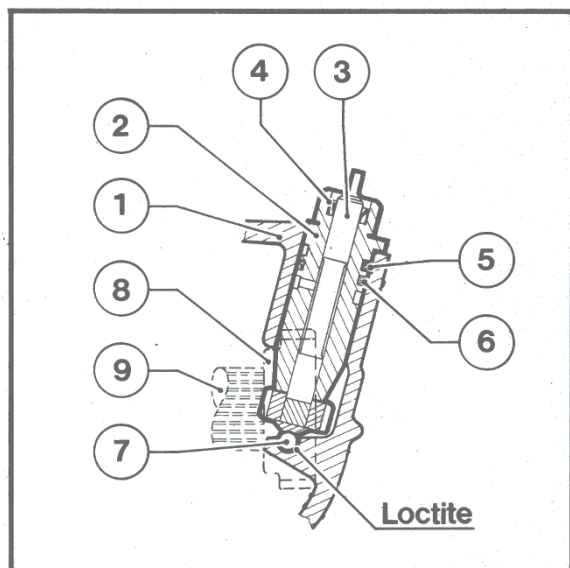

Fig. 7 Sectional view of the speedometer drive
# DISMOUNTING THE SPEEDOMETER DRIVE FROM DRAG LINK ARM CASE AND REMOUNTING (FIGURE 7)
3. Drive out pin figure 7/5.
4. Pull out bearing bush figure 7/2 with helical gear and shaft figure 7/3 from drag link arm case.
2. The ball (figure 7/7) for supporting the helical gear can be checked as to tight seat or stuck in only when drag link arm case is dismounted. Secure with LOCTITE No. 245.